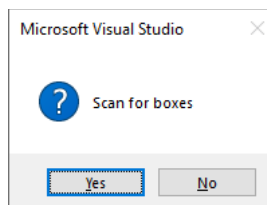

Fig. 6-25 Searching the connected devices (or boxes)
- A dialog will ask whether you want to scan for devices (boxes) connected to the interface (Fig. 6-25). Click **Yes**.